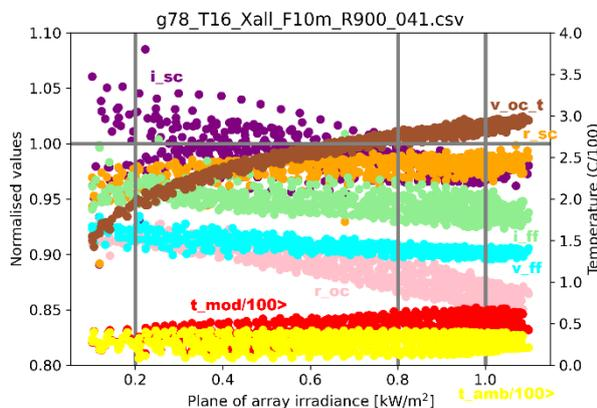

Figure 3: Normalised LFM\_6 losses(↓) vs. Irradiance(→) typical c-Si module at Tempe, AZ.
Figure 3 illustrates the 6 different normalised loss parameters for a cSi module at Gantner Instruments’ OTF in Tempe, AZ vs. poa\_global.
with irradiance or temperature it will affect the overall  $pr_{dc}$  performance and can be quantified as in figure 3 .
Plots of multiplicative LFM losses (1) as shown in figure 3 overlap, sometimes it’s difficult to discern relative losses and changes.